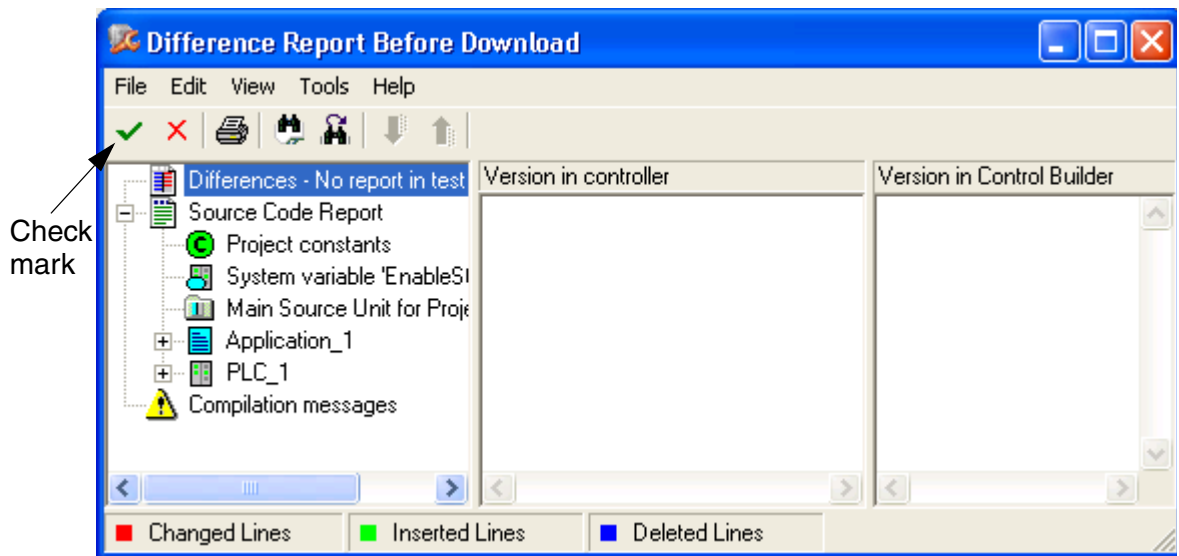

Figure 37. Difference Report Window.
4. Select the green check mark (see Figure 37) to continue. Difference report is not generated in Test mode.